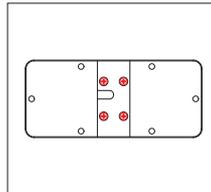
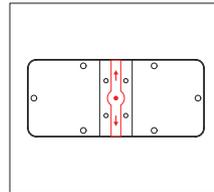

Abb. 4: Base plate
Abb. 5: Cable routing
1. Decide in which direction you want to lead the cable out of the valve block. By removing the base plate (Fig. 4), the cable can be positioned accordingly (Fig. 5) and fixed in place.
When mounting the sensor on the tank, make sure that the pressure sensor is installed in the upper area of the tank. Also make sure that the electrical connection on the pressure sensor does not point downwards (Fig. 5). Otherwise, the sensor may be damaged by condensation water settling in the tank.